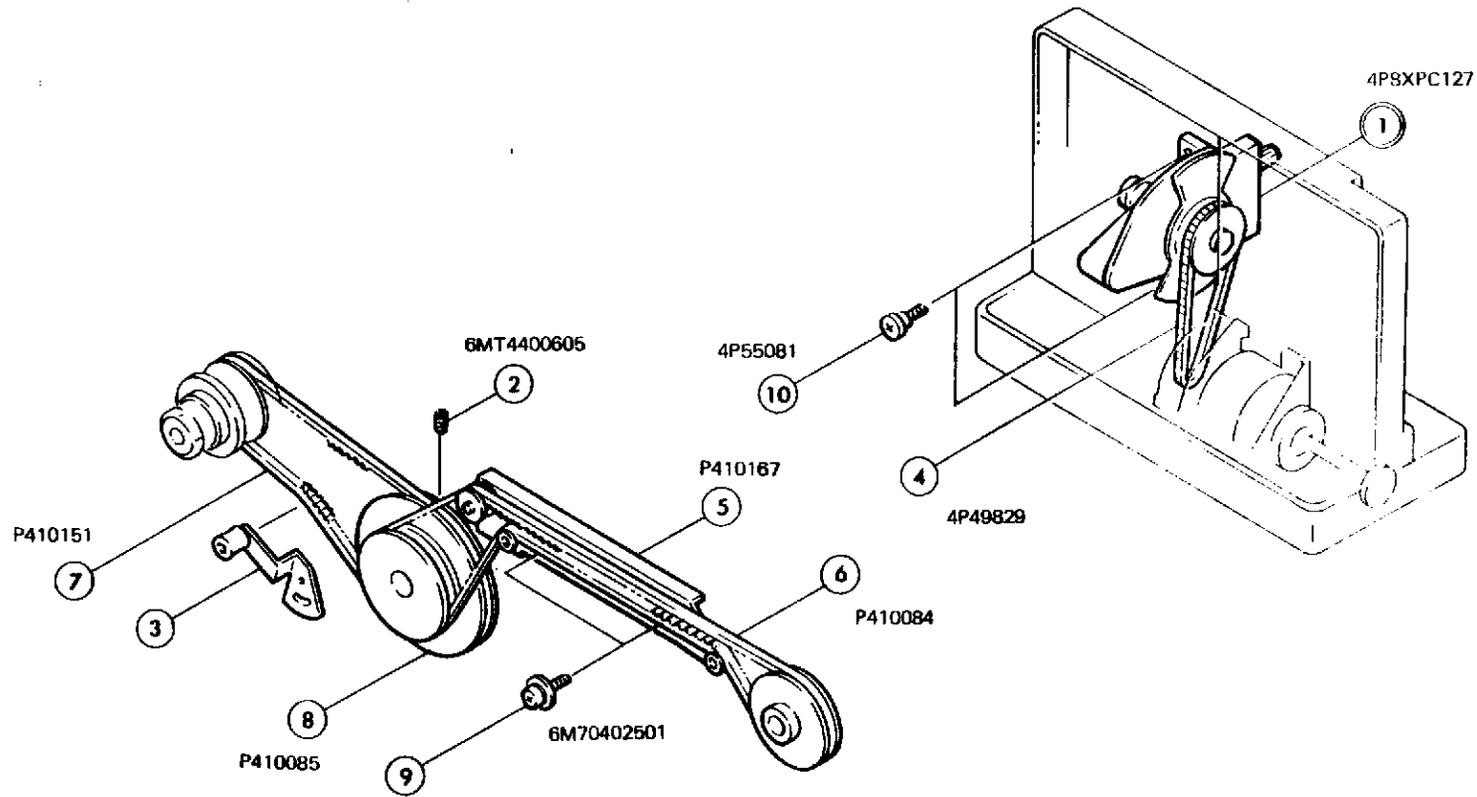
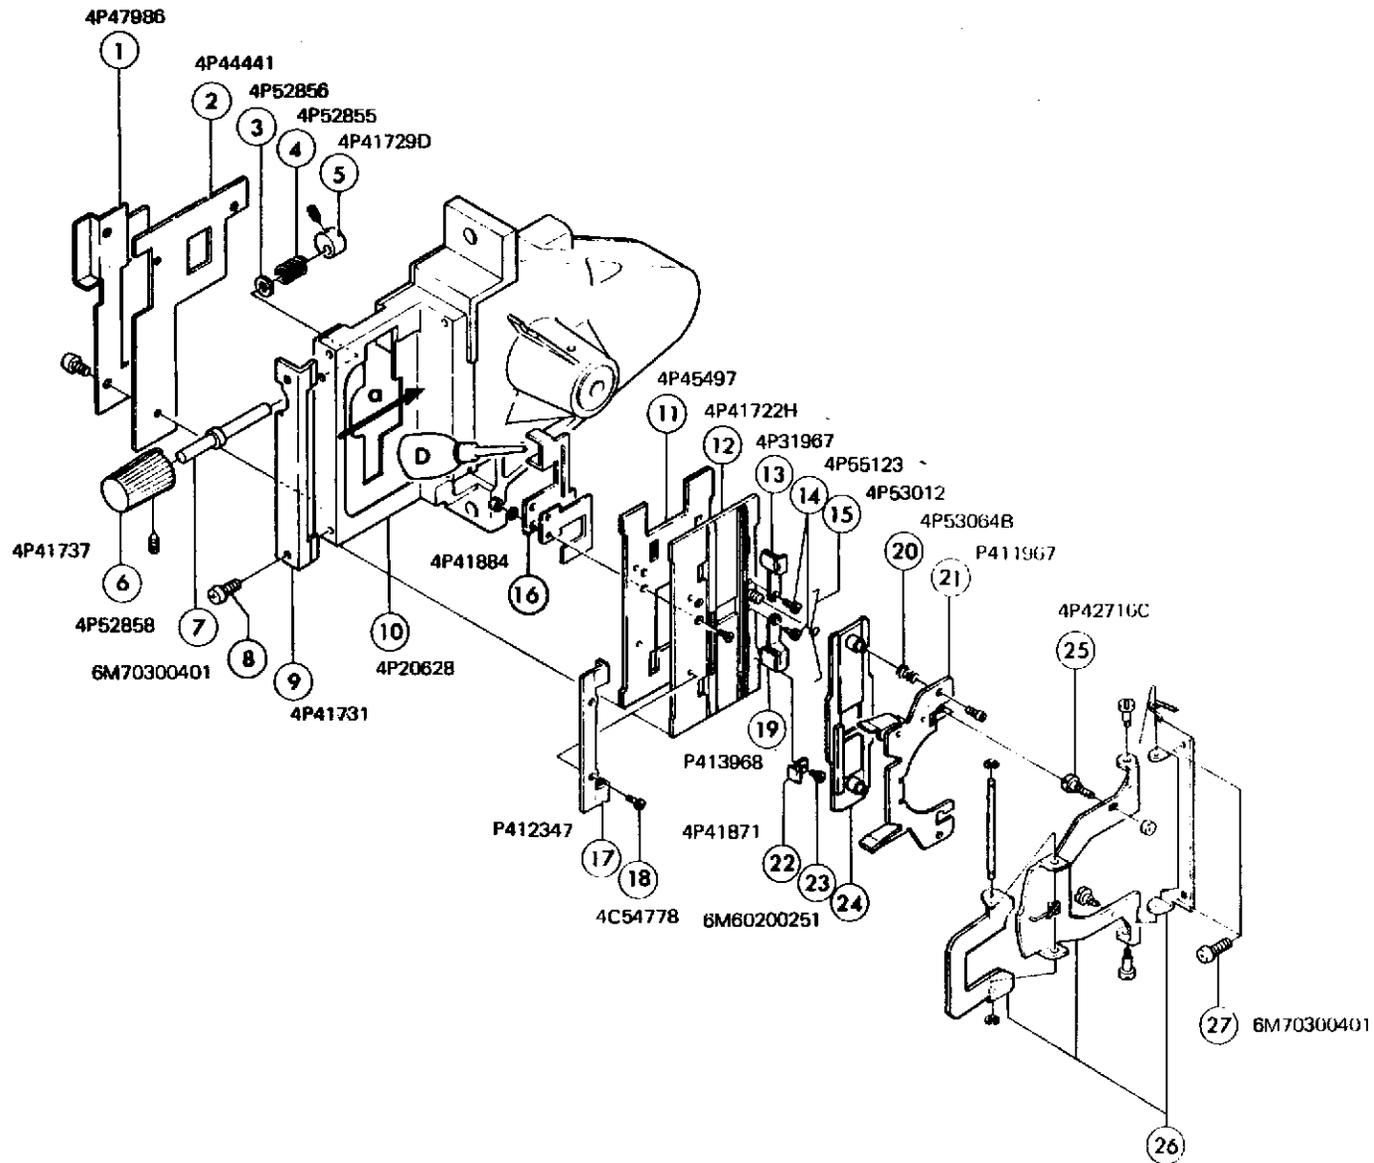
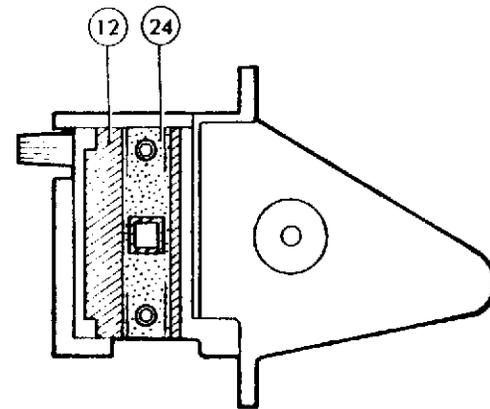

Fig.1
Fig. 2
Fig.4
TROUBLESHOOTING: Refer to Fig. 1.
TROUBLESHOOTING: Refer to Fig. 2.
1. Unscrew (27) x 2 to remove an assembly of (26).
2. Unscrew (8) x 2 to remove (9) and an assembly of (11) to (23).
3. Refer to Fig. 2 to disassemble the above assemblies.
6. Assemblé (11) and (12) in Fig. 2 temporarily. Pushing it in the arrow direction of "a" in Fig. 2, attach it. Then make sure that it can move smoothly.
7. After attaching the assembly of (26), make sure again (12) can move smoothly.
8. Attach (16) in Fig. 2 to the assembly of (11)(12).
9. Refer to Fig. 4. Adjust with (25) in Fig. 2 so that both masks of (12)(24) are positioned as shown in Fig. 4. After installing (1) in Fig. 1 in the projector, check if a part of image is hidden or if light leaks.
10. As the mask of (12) is narrow than the mask of (24), widths are made by both masks upside and downside as shown in Fig. 4. Turning (7) clockwise and counterclockwise, adjust with (6) so that the upper width and lower width are the ratio of 7 : 3.